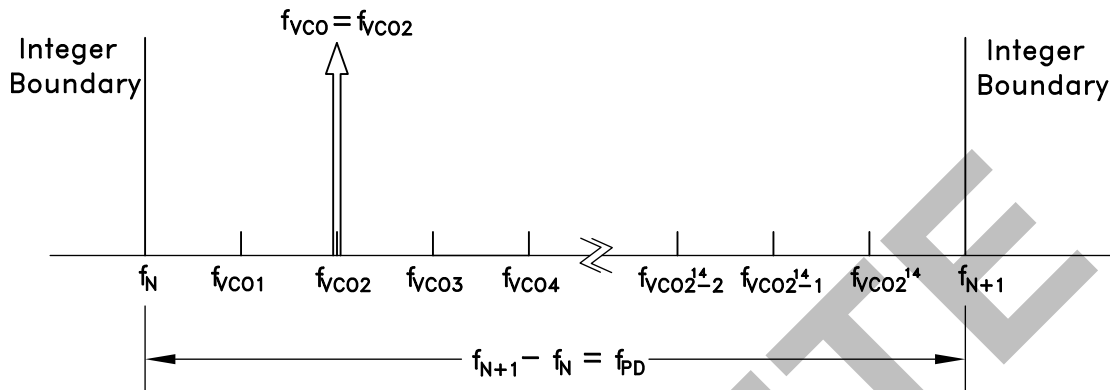

Figure 71. Exact Frequency Tuning
and f_{VCOk} are the channel step frequencies where 0 < k < 2²⁴-1, As shown in Figure 71.
Some fractional PLLs are able to achieve this by adjusting (shortening) the length of the Phase Accumulator (the denominator or the modulus of the Delta-Sigma modulator) so that the Delta-Sigma modulator phase accumulator repeats at an exact period related to the interval frequency ($f_{VCOk} - f_{VCO(k-1)}$) in Figure 71. Consequently, the shortened accumulator results in more frequent repeating patterns and as a result often leads to spurious emissions at multiples of the repeating pattern period, or at harmonic frequencies of $f_{VCOk} - f_{VCO(k-1)}$. For example, in some applications, these intervals might represent the spacing between radio channels, and the spurious would occur at multiples of the channel spacing.
If it is desirable to have multiple, equally spaced, exact frequency channels that fall within the same interval (ie. $f_N \leq f_{VCO_k} < f_{N+1}$) where f_{VCO_k} is shown in Figure 71 and $1 \leq k \leq 2^{24}$, it is possible to maintain the same integer-N (Reg 03h) and exact frequency register (Reg 0Ch) settings and only update the fractional register (Reg 04h) setting. The Exact Frequency Channel Mode is possible if (EQ 16) is satisfied for at least two equally spaced adjacent frequency channels, i.e. the channel step size.
To configure the HMC1190LP6GE for Exact Frequency Channel Mode, initially and only at the beginning, integer (Reg 03h) and exact frequency (Reg 0Ch) registers need to be programmed for the smallest f_{VCO} frequency (f_{VCO1} in Figure 71), as follows:
1. Calculate and program the integer register setting Reg 03h = $N_{INT} = \text{floor}(f_{VCO1}/f_{PD})$, where f_{VCO1} is shown in Figure 71 and corresponds to minimum channel VCO frequency. Then the lower integer boundary frequency is given by $f_N = N_{INT} \cdot f_{PD}$.
$\text{Reg04h} = N_{FRAC} = \text{ceil}\left(\frac{2^{24} \left(\text{gcd}(f_{VCO_k} - f_N, f_{PD})\right)}{f_{PD}}\right)$ where $f_N = \text{floor}(f_{VCO1}/f_{PD})$, and f_{VCO1} , as shown in Figure 71, represents the smallest channel VCO frequency that is greater than f_N .
4. To change from channel 1 ($f_{VCO1} = 2800.2$ MHz) to channel 2 ($f_{VCO2} = 2800.3$ MHz), only **Reg 04h** needs to be programmed, as long as all of the desired exact frequencies f_{VCOk} (Figure 71) fall between the same integer-N boundaries ($f_N < f_{VCOk} < f_{N+1}$). In that case